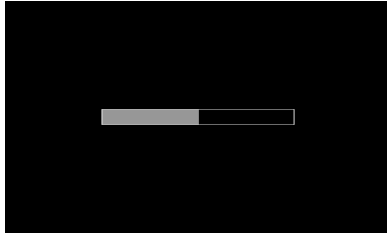

Figure 5-32 *Firmware Update screen*
- 4) Press **SETTING** button, then select **About**. Press **OK** button to enter About, select **Update** to upgrade the tool (Figure 5-32).